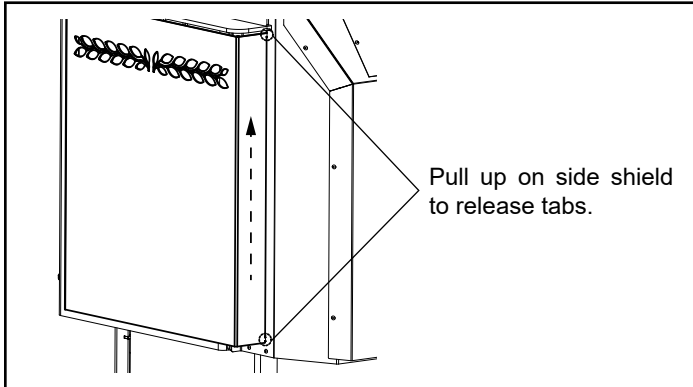

Figure 1
1. Slightly lift up on both side panels to release tabs from the stove body. Figure 1.